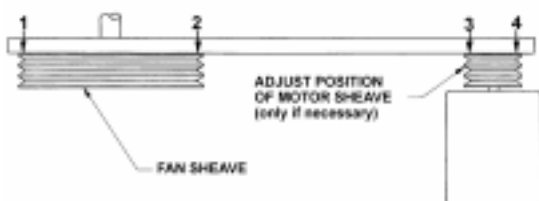

Figure 20 - Sheave Alignment Check.
8. Measure to see that the top and bottom of the motor base are the same distance out from the casing of the unit. This should insure that the sheaves are properly aligned as they have been pre-set at the factory. As a final check, lay a straight edge from sheave to sheave. There should be four point contact (See Figure 20). Adjust the position of the motor sheave as necessary.